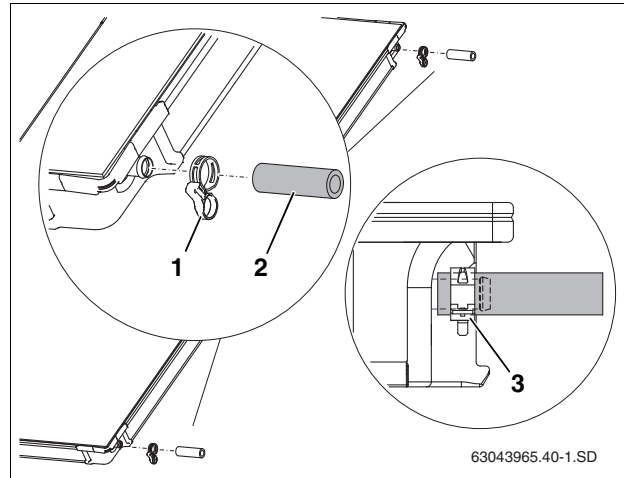

Fig. 36 Pre-assembling the connection set on the second collector
- ▶ Push 4 in (95 mm) solar hoses (Fig. 36, [2]) onto the right-hand connections on the second and any subsequent collector.
- ▶ Push a hose clamp (Fig. 36, [1]) over the solar hose.
- ▶ Once the first hose clamp is sitting correctly, pull the locking ring to secure the connection (Fig. 36, [3]).